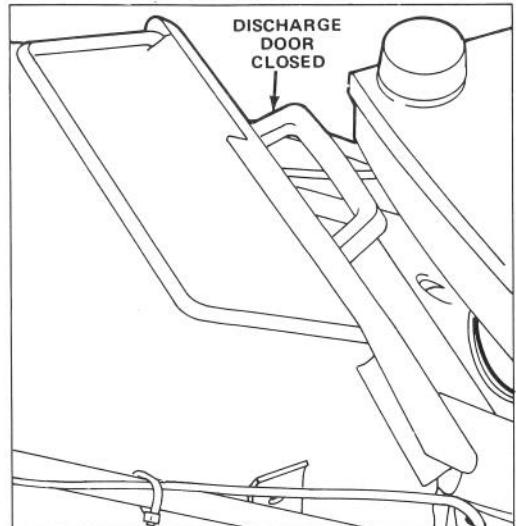
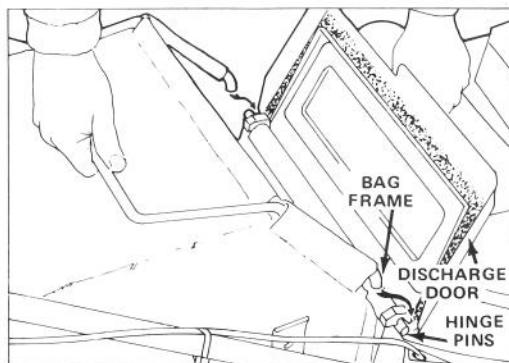

Figure 3
Figure 2
6. To install grass bag, raise discharge door and hook bag frame onto hinge pins (Fig. 2). Allow bag to rest on mower housing over discharge opening. Close door and make sure it seals around top of bag opening (Fig. 3).